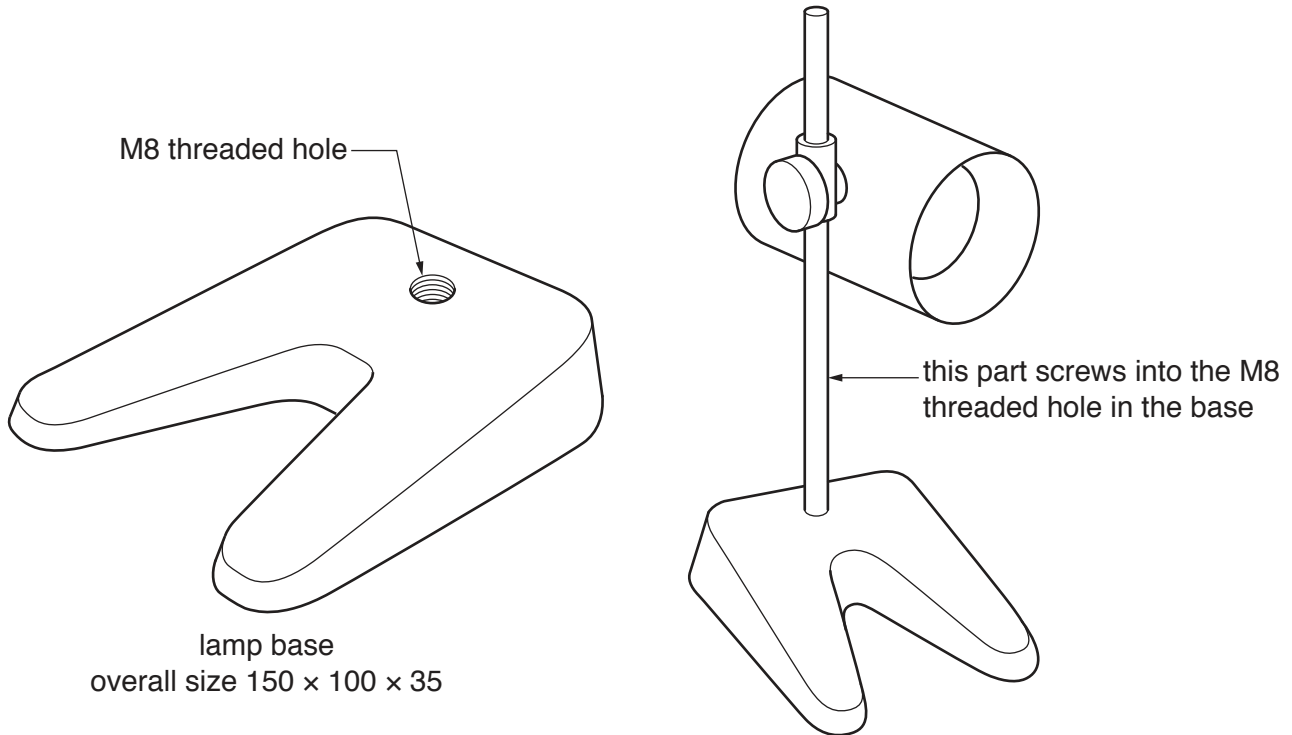

Fig. 1
- 1 Fig. 1 gives details about a table lamp which is to be made in a school workshop. The base will be made from cast aluminium.